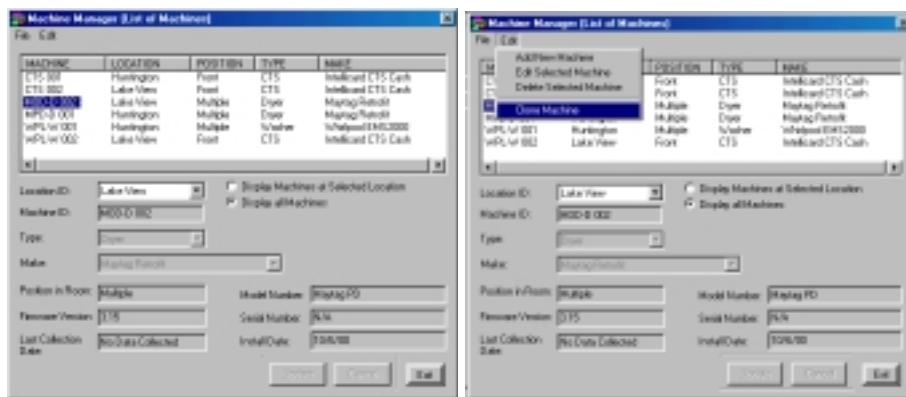

Figure 7.8 Cloning a Machine
2. Click the machine to clone from the Machine List Window (Figure 7.8).
3. Select Clone Machine from the Edit drop-down menu (Figure 7.8).